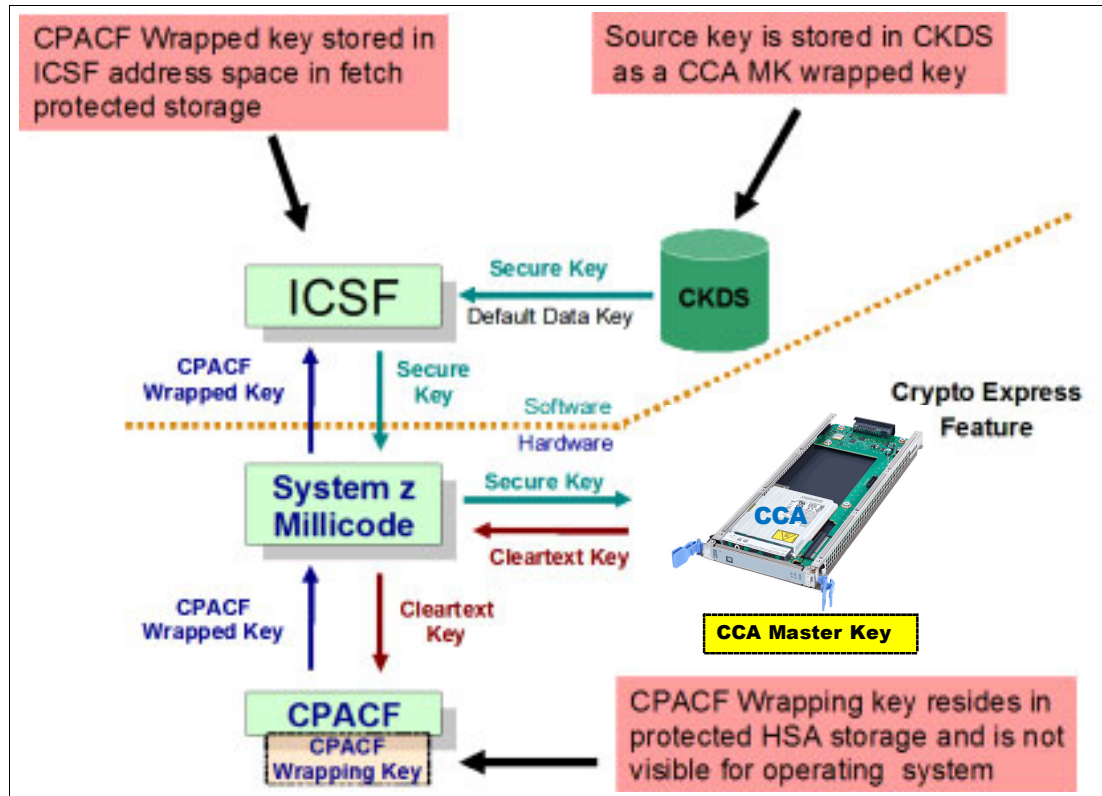

Figure 6-5 CPACF key wrapping
Wrapping keys are generated during the clear reset each time an LPAR is activated or reset. There is no customizable option available at Support Element (SE) or Hardware Management Console (HMC) that permits or avoids the wrapping key generation. Figure 6-5 shows this function flow.
A new segment in the profiles of the CSFKEYS class in IBM RACF restricts which secure keys can be used as protected keys. By default, all secure keys are considered not eligible to be used as protected keys. The process that is described in Figure 6-5 considers a secure key as being the source of a protected key.